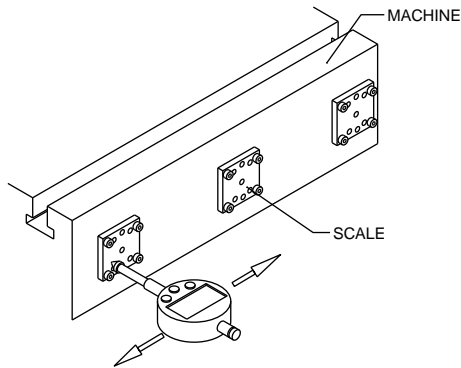
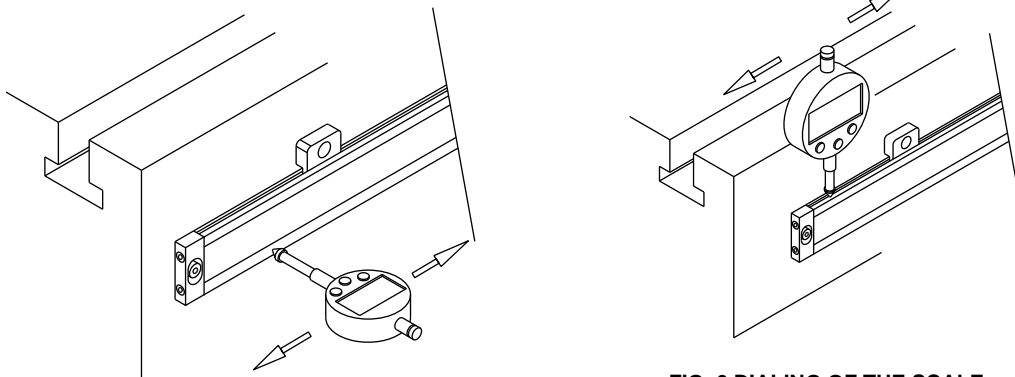

FIG. 8 SCALE MOUNTING METHOD
FIG. 6 DIALING OF THE SCALE
- 7) Use the side clamps at every 500mm. Refer Fig 6 or 9.
- 5) In such case, manufacture the scale mounting blocks as per Fig 7. Mount these blocks on the machine bed so they are at the two ends of the desired position of the scale. Check alignment of these blocks Fig 8. Mount the scale on these blocks and repeat the dialing procedure as shown in Fig 6.